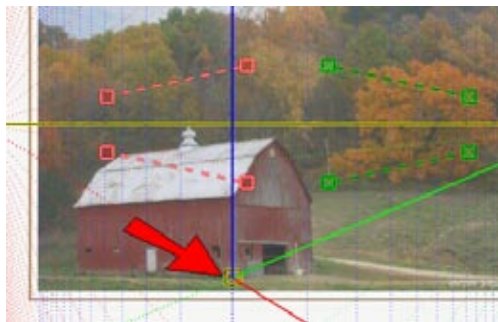

Figure 9-51
4. The origin should be placed at the corner nearest to the camera, on the ground. Click and drag the yellow origin point and place it on the ground where the front and side faces meet (Figure 9-51).